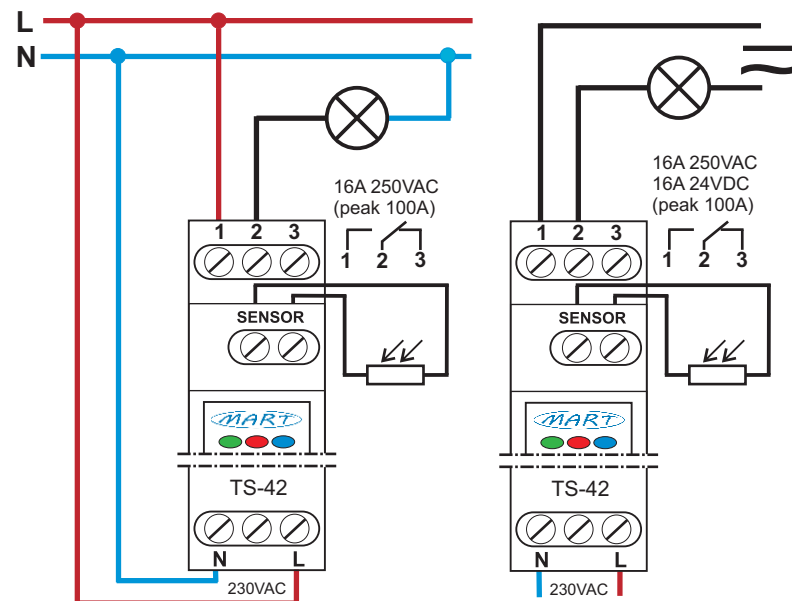

Fig. 2.: Connection diagrams for the TS-42-3 TWILIGHT SWITCH automatic device.
3. Connect the wires in accordance with the diagram (fig. 2)